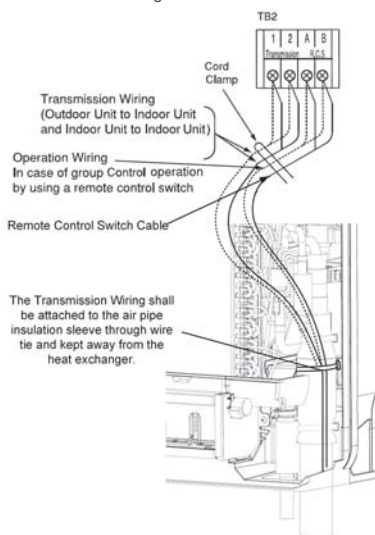

Fig.7.3 Electrical Wiring Connection for Indoor Unit
The electrical wiring connection for the indoor unit is shown in Fig.7.3.
- (1) Connect the cable of an optional remote control switch or an optional extension cable to the terminals inside the electrical box through the connecting hole.
- (2) The power supply and earth wires have been connected in the factory. Please connect to the power circuit with a **ELB**(Fig.7.3)
- (3) Connect the wires between the indoor unit and the outdoor unit to the terminals in the electrical box.
- (4) Tightly clamp the wires using the cord clamp.
- (5) Take out magnet ring and wire tie from accessory bag, put the power line around the magnetic ring once and tie it tightly.